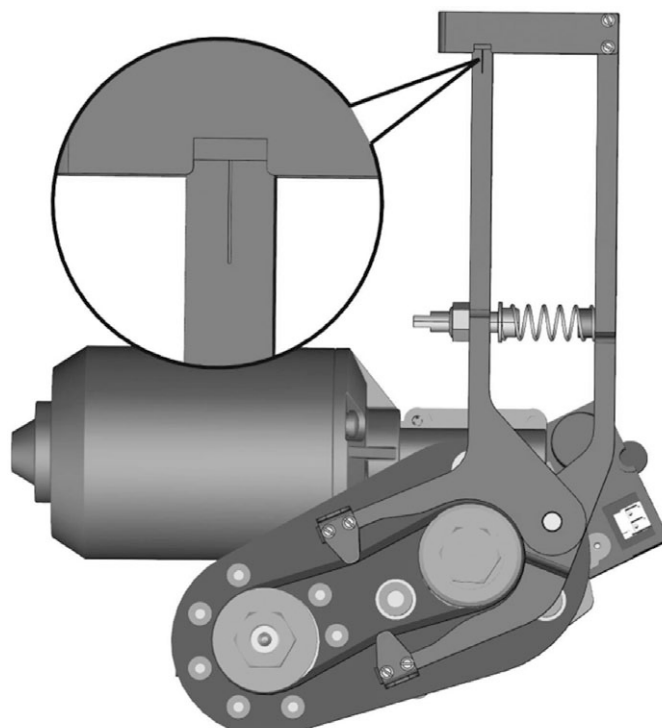

Figure 115. The pointer mark is in the allowed range between the "left" and "right" marks.
4. Place the tensiometer to the belt assembly so that the wheel is touched and the side plates are on each side of the belt. See fig. 115.
6. Check that the tension is correct by making sure the pointer mark is in the allowed range between the "left" and "right" marks. See fig. 115.